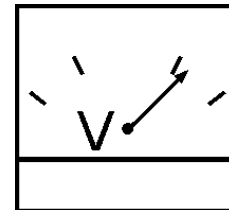

Figure 45. Voltmeter Meter
7. The generator's **AC-voltmeter** (Figure 45) will display the generator's output in **VOLTS**.